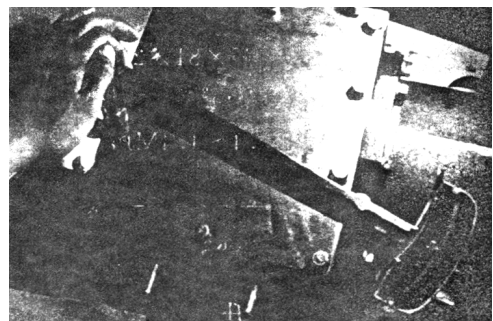

Fig. 3-30
g) Put the transmission cover and its gasket on the case and tighten all bolts to a torque of 20.6-34.3N.m (2.1-3.5kgm) (See Fig. 3-30).